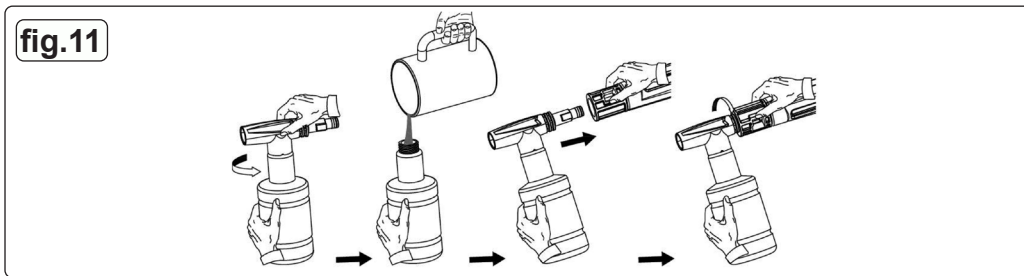

fig.11
6.6. TO WASH WITH DETERGENT FIG.11